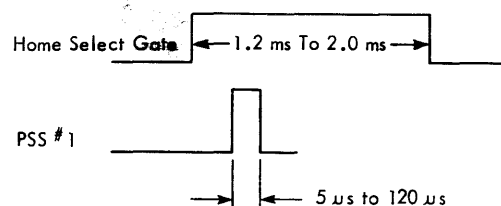

Figure 94. PSS1 Timing
4. The home PSS (PSS1) pulse must occur completely within the select gate that is formed in the system to which the printer is attached (Figure 94).